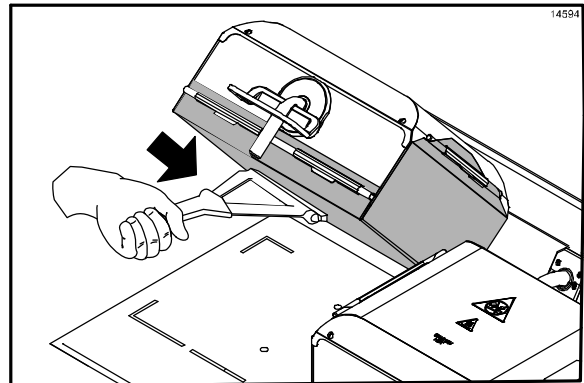

Figure 32
- Use the wiper squeegee to clean the release sheet on the upper platen. Use a diagonal motion to clean the sheet. Hold the handle at a slight upward angle, with the wiper end facing downward. (See Figure 32.)